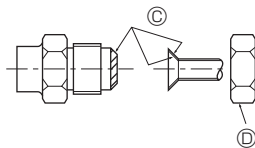

Fig. 4-1
4.2. Connecting pipes (Fig. 4-1)
- Apply thin layer of refrigeration oil to pipe and joint seating surface before tightening flare nut. ①
- Use 2 wrenches to tighten piping connections. ②
- Apply refrigerating machine oil over the entire flare seat surface. ③
- Use the flare nuts for the following pipe size. ④
① (Fig. 4-1)
② (Fig. 4-1)